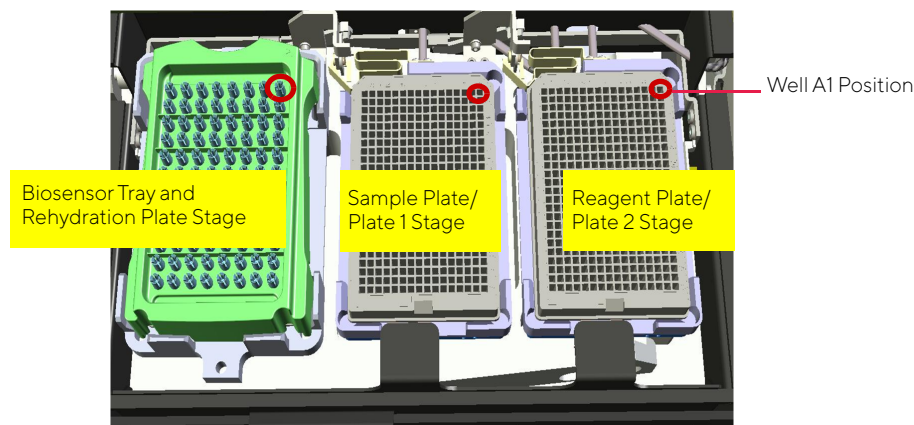

Figure 7-66: Octet® Instrument Stage Platform
2. Place the biosensor tray, sample plate, and reagent plate on the appropriate stage so that well A1 is located at the upper right corner (see Figure 7-66):